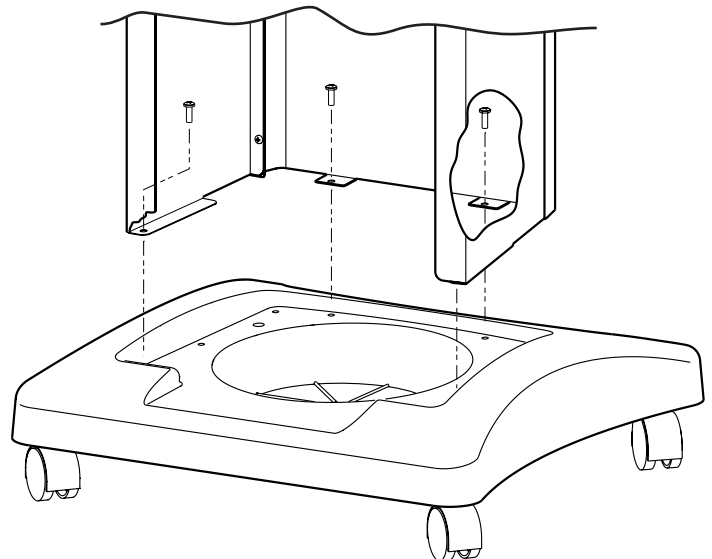

Figure 4
4. Secure the completed assembly to the base with four 1/4-20 x 3/4" Phillips Truss screws. See Figure 4. Note: Plastic base comes with factory installed threaded inserts. Install all four screws before tightening.